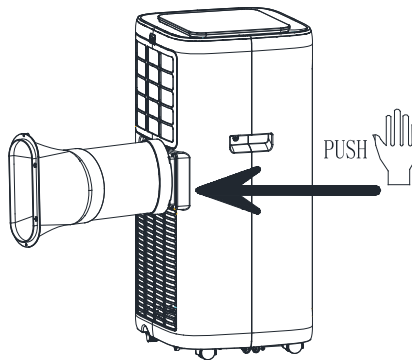

Figure 1
1.1 Install the heat pipe assembly (as shown in Fig.1)
left) and complete the assembly (as shown in figure 1).